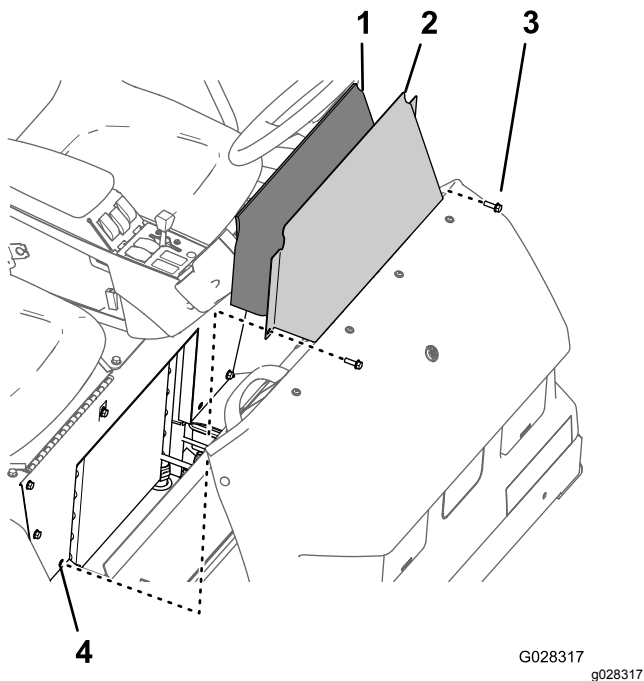

Figure 50
1. Remove the 2 flanged-head bolts that secure the seat base access cover to the seat base (Figure 50).
2. Remove the seat base cover and the acoustic panel from the machine (Figure 50).
1. Align the acoustic panel to the opening in the seat base for the seat base access cover (Figure 50).
2. Align the holes in the seat base access cover with the holes in the seat base (Figure 50).
3. Assemble the seat base access cover to the seat base with the 2 flanged-head bolts (Figure 50) that you removed in 1 in Removing the Seat Base Access Panel (page 43).